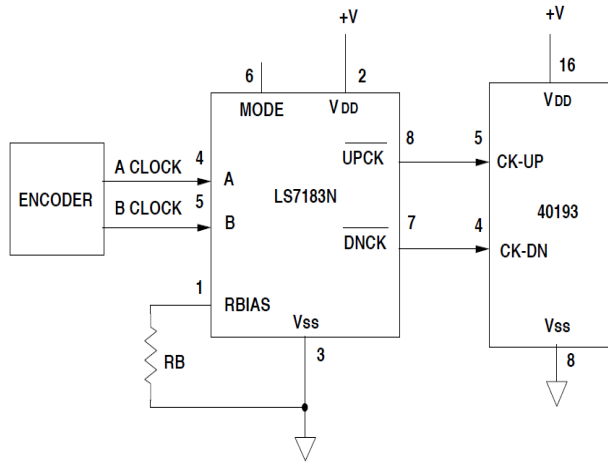

Figure 6A. TYPICAL APPLICATION FOR LS7183 in X4 MODE
- Interface incremental encoders to Up / Down Counters (See Figure 6A and Figure 6B)